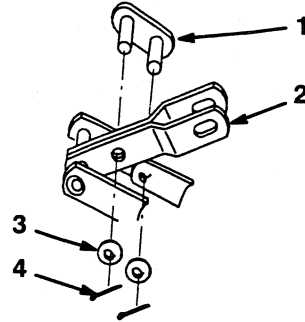

Figure 4
1. Install link bracket that connects to lift arm and deck (Fig. 4). Install using washers and cotter pins.